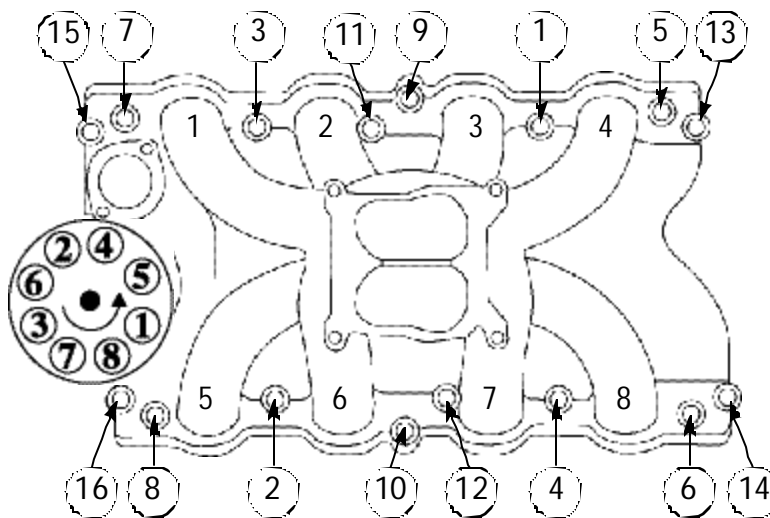

Figure 1 - 429/460 Ford Torque Sequence
- 5) Install the intake manifold and hold-down bolts. Torque all of the manifold bolts in two steps by the sequence shown in Figure 1 to 25 ft/lbs.